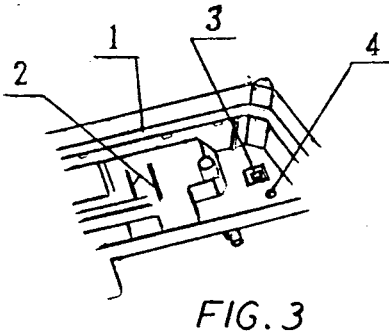

FIG. 3
Oiling of the operating parts of CONSEW Model CN 223OR is entirely automatic. Oil is contained in the oil pan and is circulated to all parts which require lubrication and cooling. The oil pan is to be filled with a good quality sewing machine oil of a grade similar to SAE 10 to a level between marks (2) on the surface of oil pan (1). See Fig. 3. Oil level should be checked daily and should not be